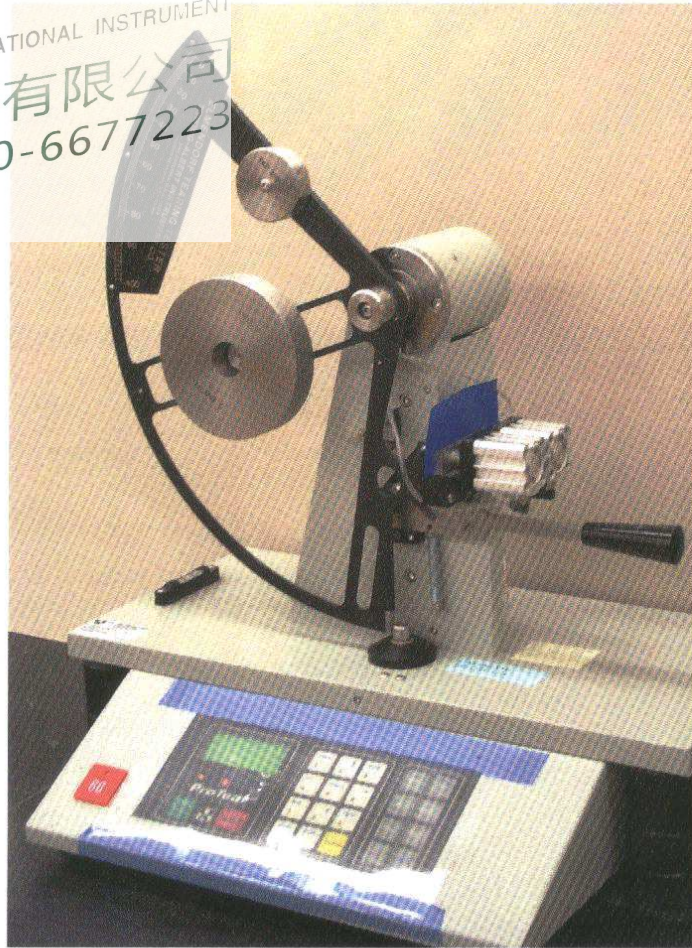

Figure 1. Elmendorf tear test tester.
4.1 Elmendorf tear test tester. (See Figure 1.)